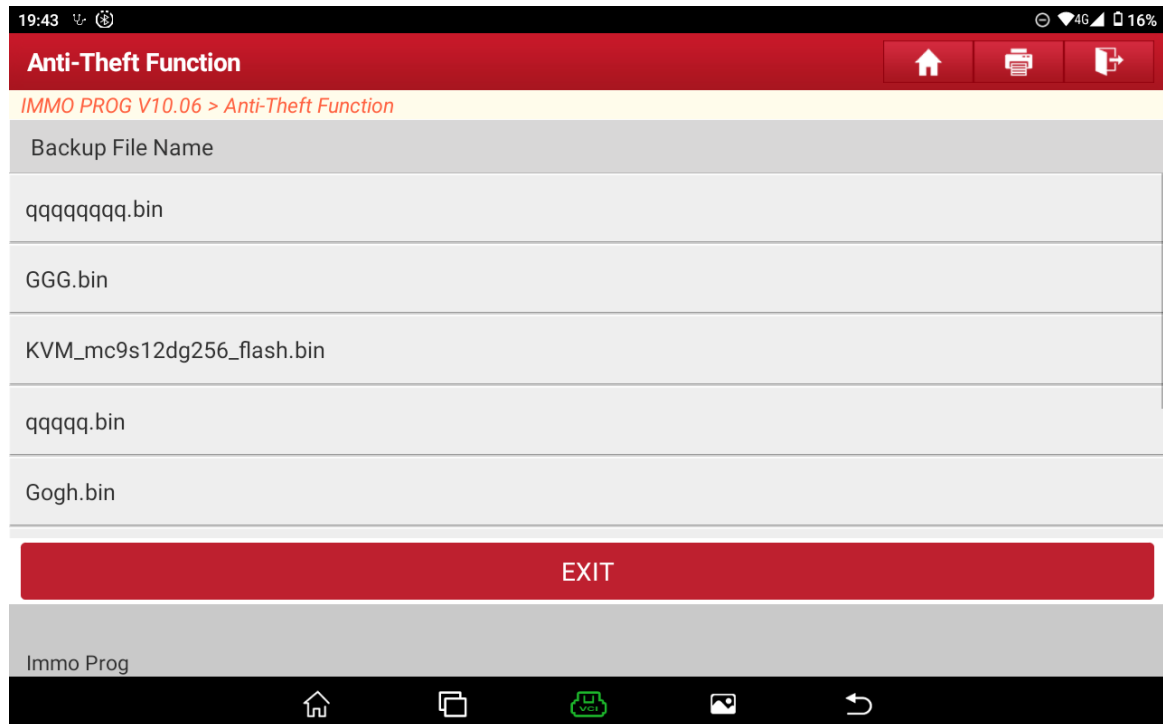
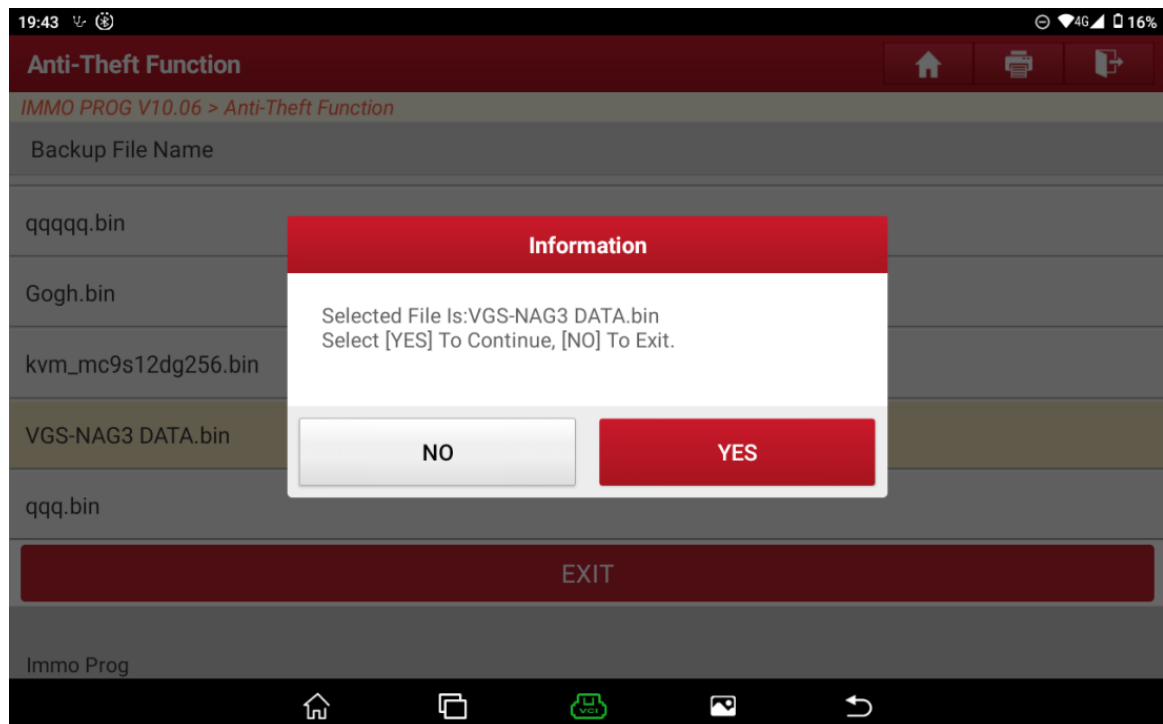
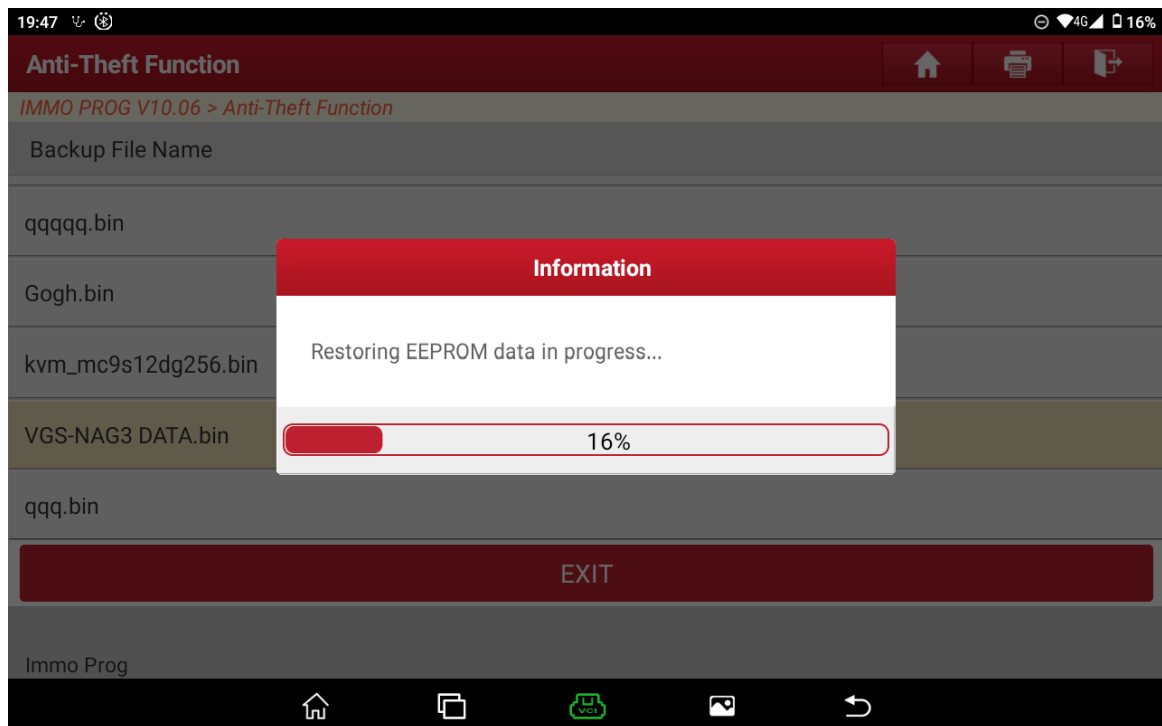
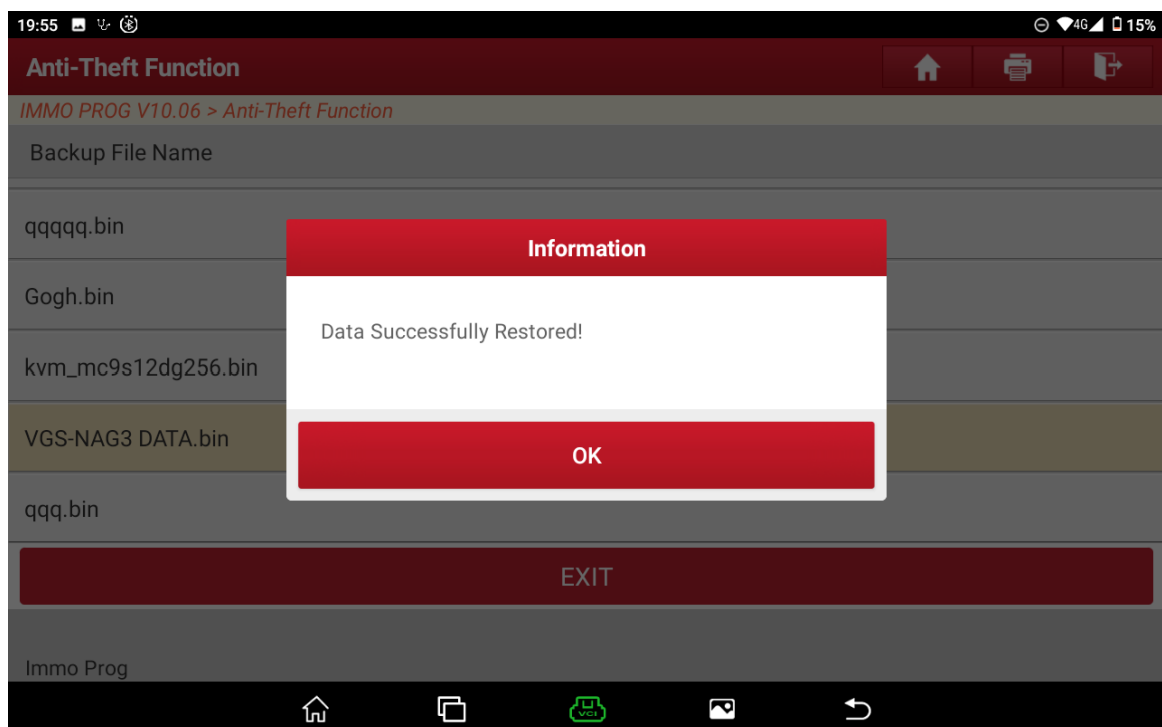

Figure 13
Figure 14
Figure 15
Figure 16
9. Click [Restore complete data] and select the data backed up in step 7, as shown in Figure 13. Click [Yes], and write the data of the original car gearbox to the external gearbox, as shown in Figure 14, Figure 15, and Figure 16.